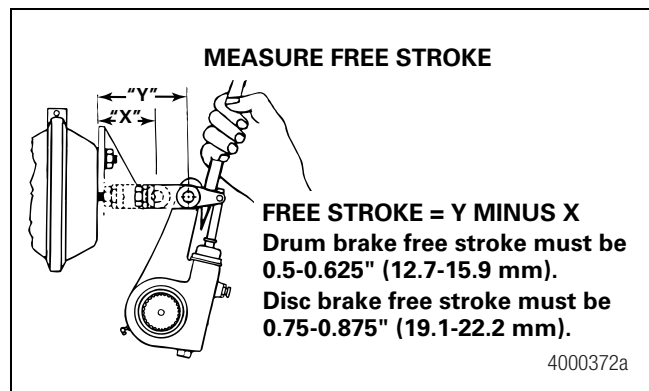

Figure 7.10
- Measure the distance from the center of the large clevis pin to the bottom of the air chamber while the brake is released. The measurement you obtain is X in Figure 7.10.
- Use a pry bar to move the slack adjuster and position the linings against the drum with brakes applied. Measure the same distance again while the brakes are applied. The measurement you obtain is Y in Figure 7.10.
3. Subtract X from Y to obtain the in-service free stroke. The measurement must be 0.5-0.625-inch (12.7-15.9 mm) for drum brakes. Figure 7.10.